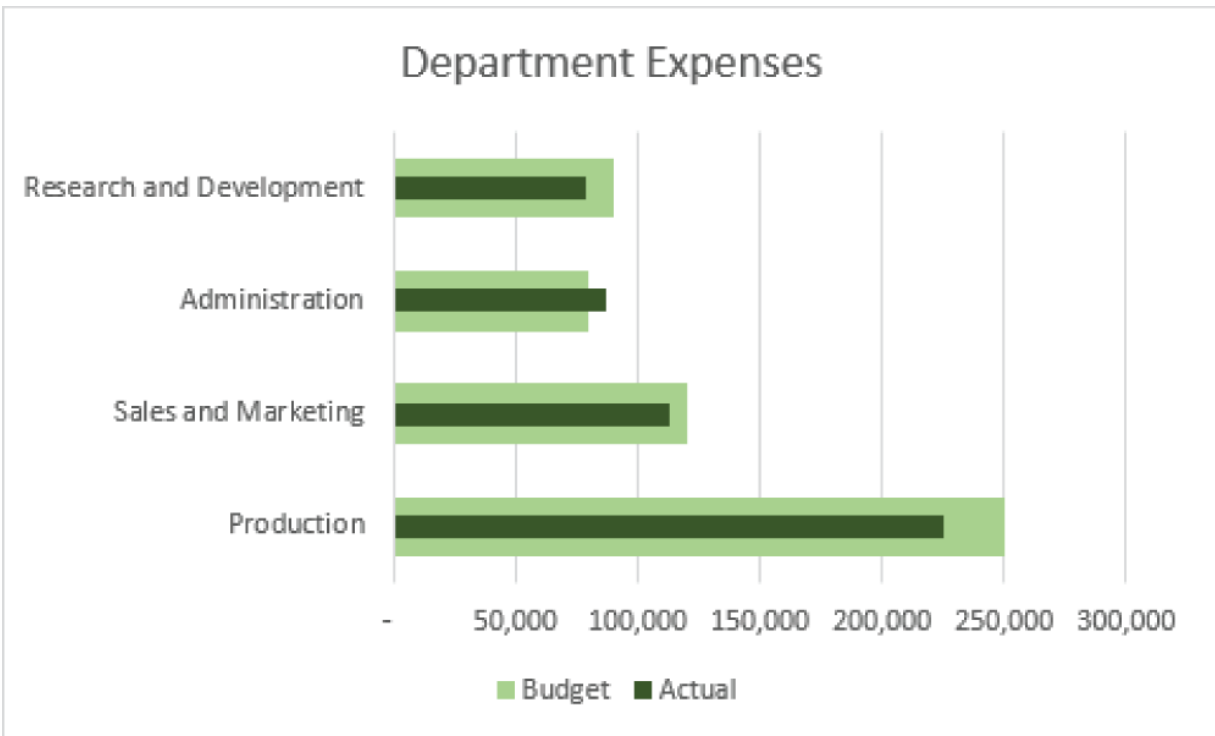

Figure 7.18: The completed bullet chart
7. Finally, change the chart title to a meaningful name. Figure 7.18 shows the completed chart.